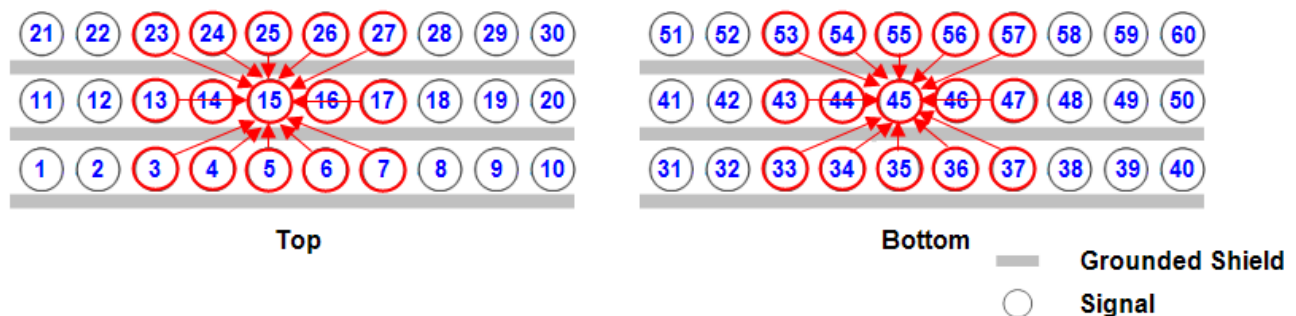
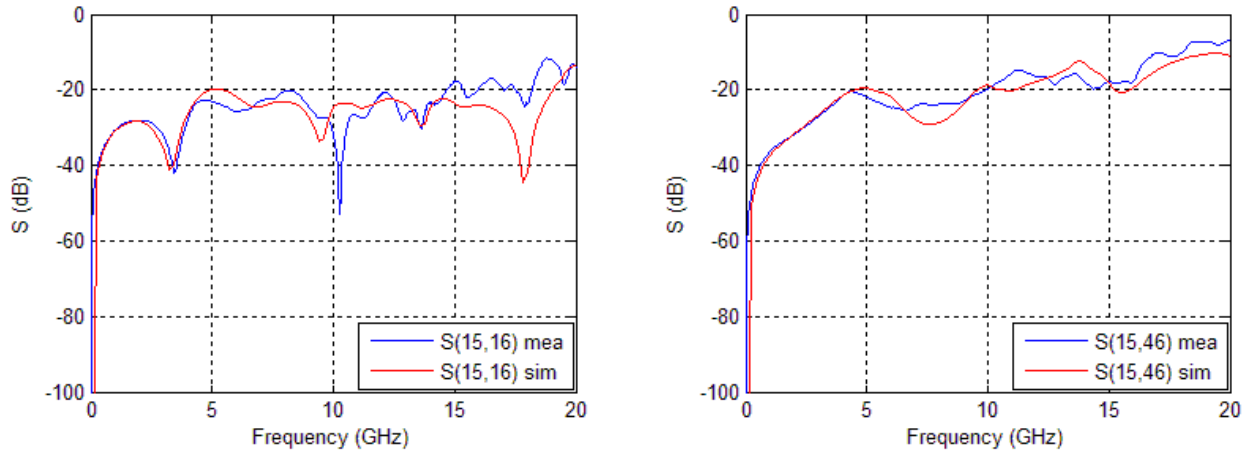

Figure 111 Single-ended NEXT and FEXT for center port 15 were measured for 14 surrounding neighbors
Figure 113 Measurement vs. simulation correlation of single-ended S parameters (for IT3-17mm) as shown in Figure 111
Figure 112 and Figure 113 show the measurement vs. simulation correlation of insertion loss (IL), return loss (RL) and single-ended S parameters (SDD for the center port 15 as shown in Figure 111). Good correlation was observed for all IL, RL, near-end cross-talk (NEXT), and far-end cross-talk (FEXT).
Single-ended NEXT and FEXT were measured for 14 surrounding neighbors of the center port (see Figure 111) and converted into time-domain data. Figure 114 and Figure 115 show the maximum single-ended NEXT and FEXT (in %) from each neighbor with step input at 120ps (20% to 80%) rise time with 2.625 GHz bandwidth. The center box corresponds to the absolute sum of NEXT and FEXT from all 14 surrounding ports.